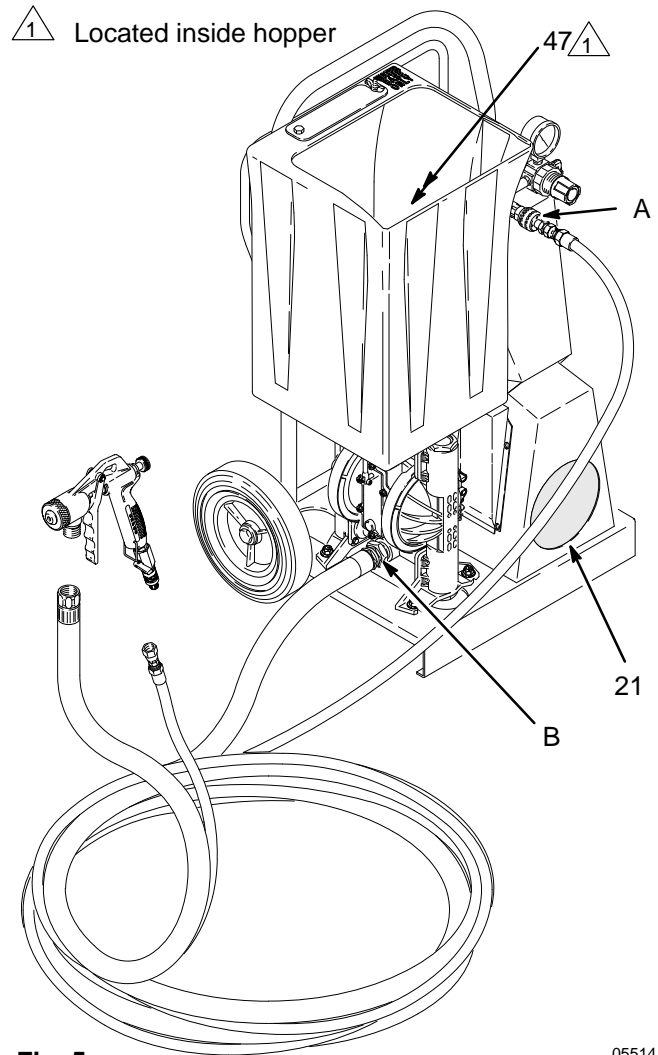

Fig. 5
1. Connect the hoses and gun as shown in Fig. 5.
3. Be sure the air filter (21) and the material filter (47) is in place. See Fig. 5.